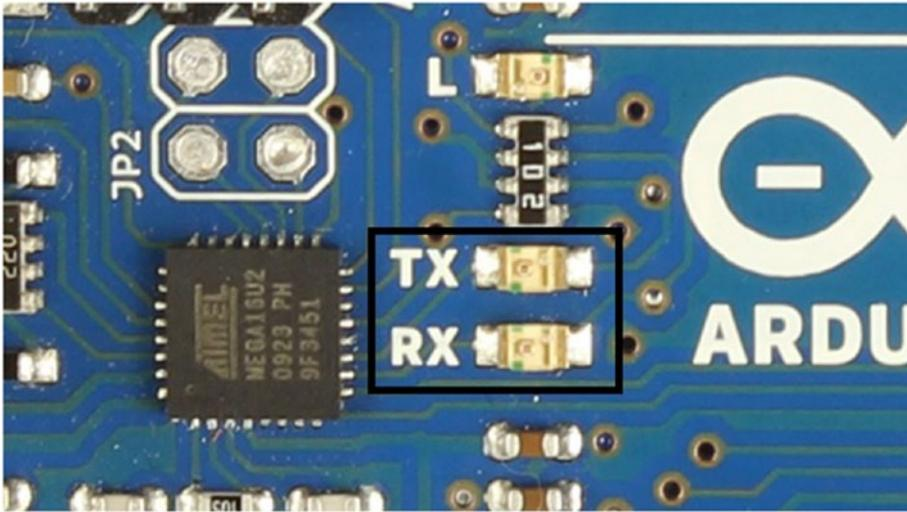

Figure 2-19. Arduino UNO's RX and TX LEDs
2. Click **Upload** button to upload the code to the Arduino board. While uploading the sketch to the board, you can see the orange color **RX** and **TX** LEDs on the board are flashing (Figure 2-19). The RX LED blinks when the Arduino is receiving data and the TX LED blinks when the Arduino is transmitting data.